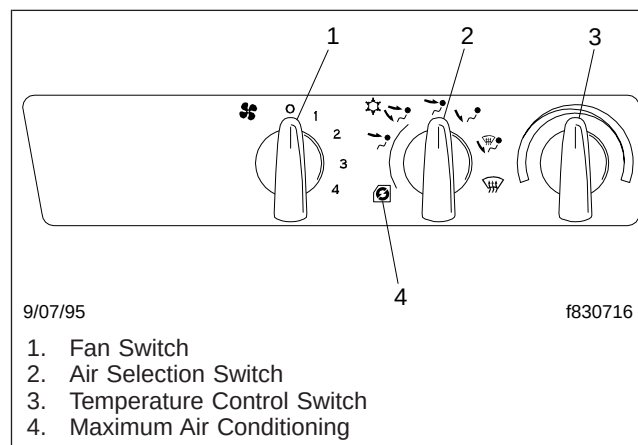
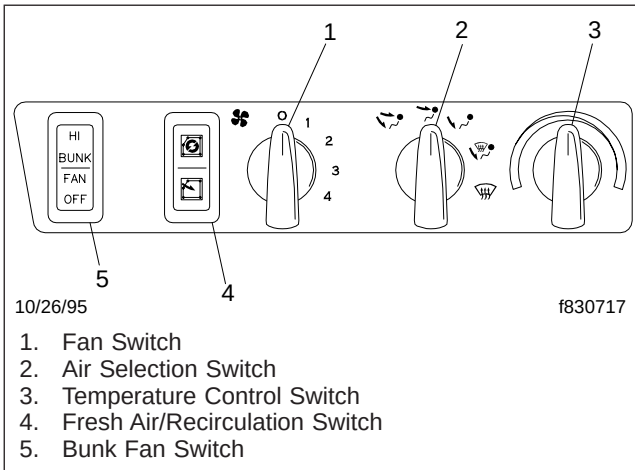

Fig. 4.6, Climate Control Panel, Heater and Air Conditioning
Fig. 4.7, Climate Control Panel, Heater Only
The cab climate control panel allows you to control all of the heating, air conditioning, defrosting, and ventilating functions. See Fig. 4.6 or Fig. 4.7.
A fresh air/recirculation switch is standard equipment when there is no air conditioning. See Fig. 4.7. This control is an option when air conditioning is ordered. It allows the cab to be ventilated with either fresh or recirculated air. When the air selection switch is rotated to the maximum air conditioning position, the system uses *only* recirculated air, regardless of
whether fresh or recirculated air has been selected. See Fig. 4.6.
The fan bunk switch on the cab climate control panel overrides the sleeper climate control panel. See Fig. 4.7. For increased ventilation in the sleeper, put the switch in the HI position. For normal fan and temperature operation, put the switch in the middle position. To turn the fan in the sleeper off, put the switch in the OFF position.
1. Move the fresh air/recirculation switch to the fresh air position. Move the air selection switch to the desired position. See Fig. 4.7.
1. With the engine at operating temperature, set the bunk fan switch on the cab climate control panel to the middle position. See Fig. 4.7.
1. Turn on the cab air conditioner (refer to "Air Conditioning") and set the bunk fan switch on the cab climate control panel to the middle position. See Fig. 4.7.